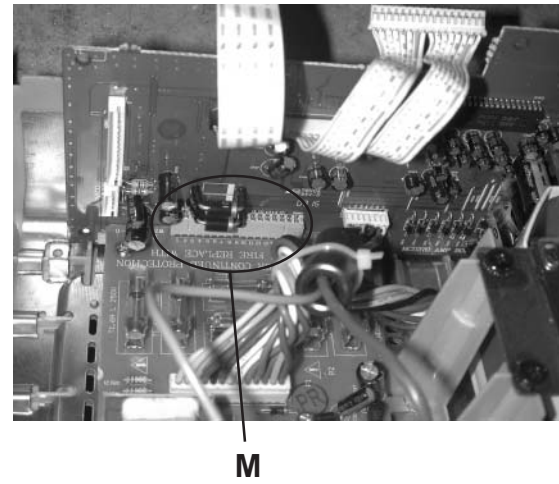

Figure 11
- 3) Unplug the connectors "M" that connect amplify board and power board as shown in Figure 11.